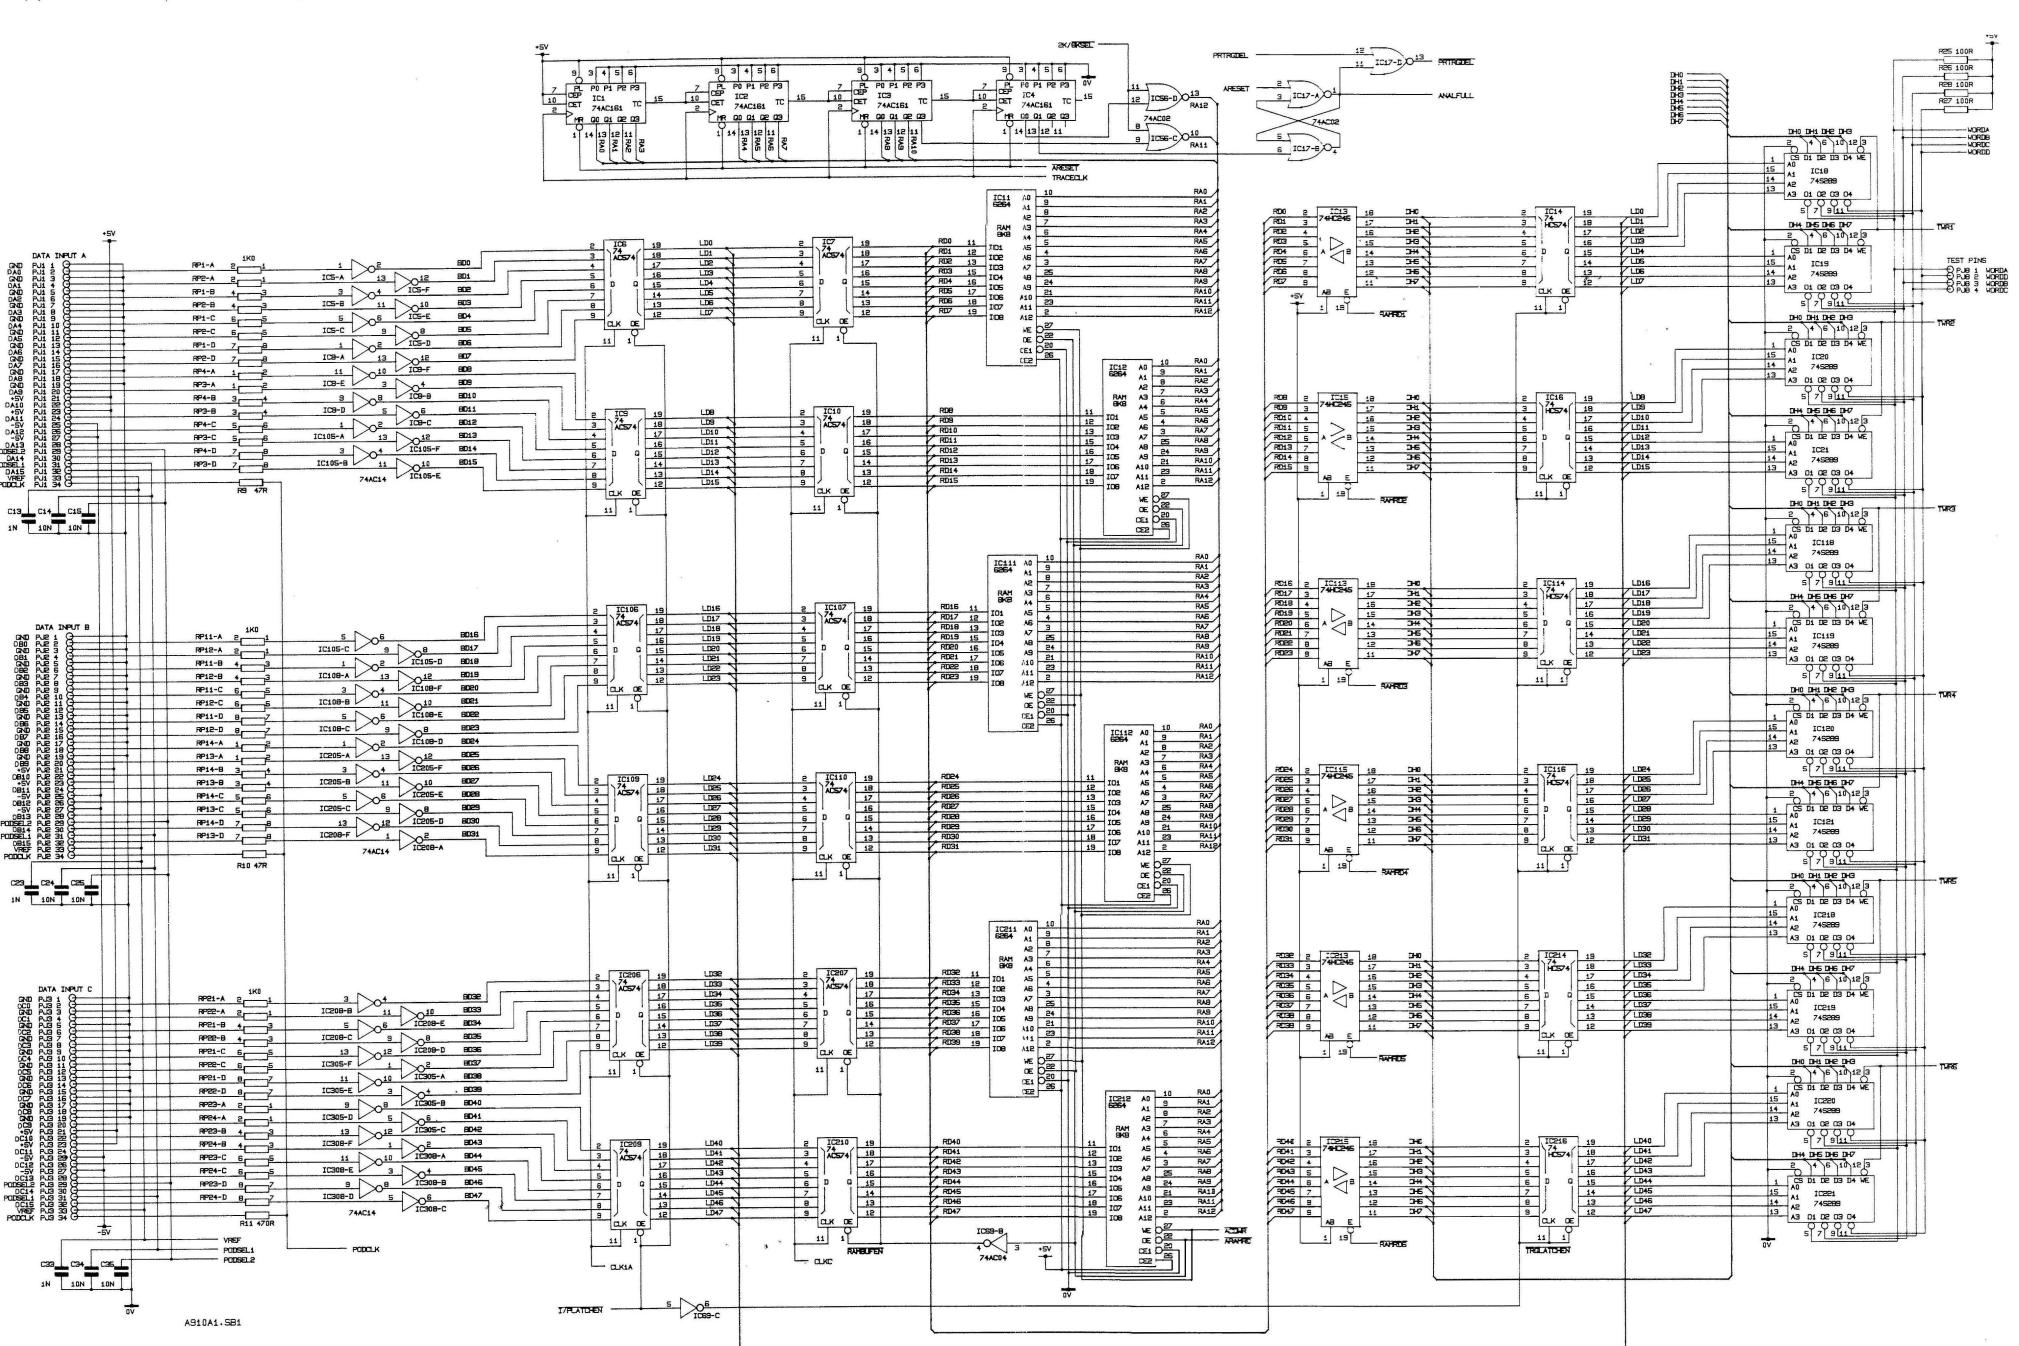

Fig 2 LA4800 MAIN PCB - SHEET 1
- Fig 2 LA4800 MAIN PCB – SHEET 1